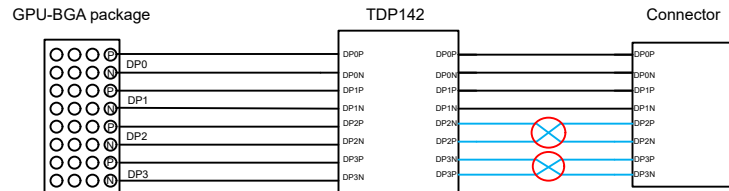
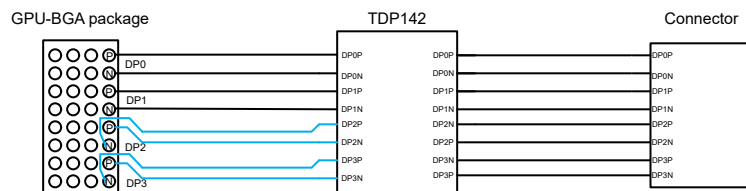

Figure 8-7. Layout Example: Signal Crossing on the Output
Figure 8-8. Layout Example: INDP2 and INDP3 Polarity Swap
10. The layout can face signal crossing on OUTDP2 and OUTDP3 due to mismatched order between the output pins of the device and the connector (see Figure 8-7). One option is to do a polarity swap on the input of the device when GPU is a BGA package to help minimize the number of VIAS being used.
The following figures demonstrate how to adjust mismatched order between the output of the device and the DisplayPort connector for the source using a BGA package. Figure 8-7 shows the crossing section between TDP142-Q1 and connector. Usually, vias are applied to avoid the cross, but using a via can attenuate the signal integrity. Therefore, the polarity swap can be implemented at the input of TDP142-Q1. Figure 8-8 shows there is no more crossing section between the TDP142-Q1 and connector, which can minimize the number of vias being used. Note that this option is only useful for the source using a BGA package.